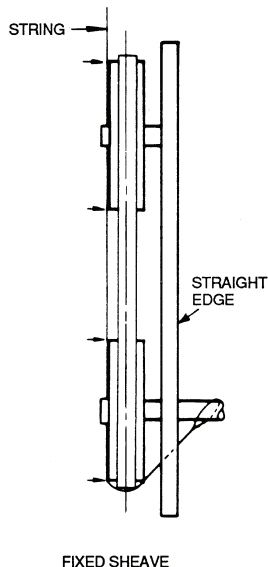

Fig. 36 — Sheave Alignment
1. To check the location of the fixed sheaves on the shafts, use a straightedge or a piece of string. If the sheaves are properly aligned, the string will touch them at the points indicated by the arrows in Fig. 36. Rotate each sheave a half revolution to determine whether the sheave is wobbly or the drive shaft is bent. Correct any misalignment.